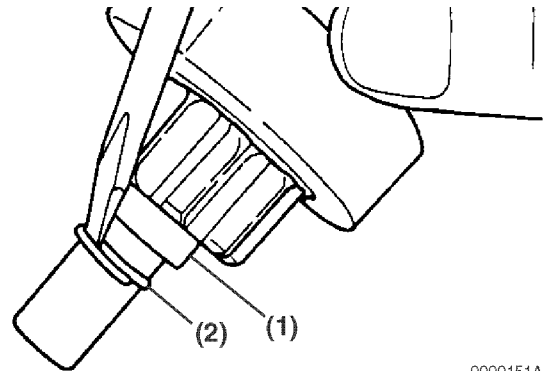

Figure 8-11
15. Pull down the pinion stop (**Figure 8-11, (1)**) to expose the retaining ring. Using a flat-blade screwdriver, remove the retaining ring (**Figure 8-11, (2)**) from the pinion shaft.